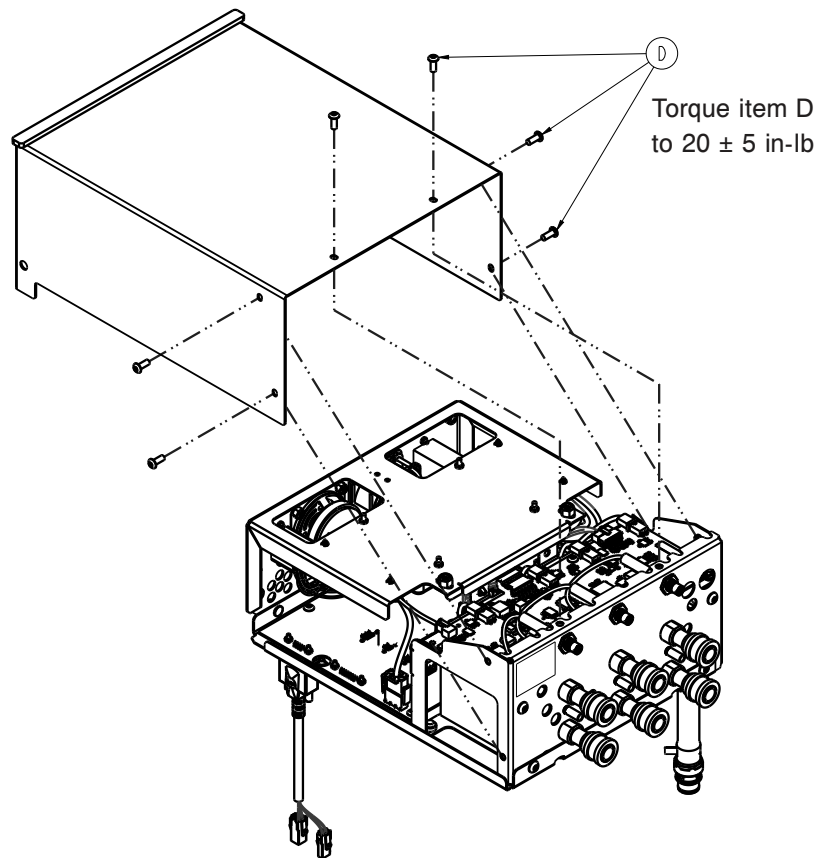

Figure 30 – Control box cover
6. Using a T25 Torx driver, remove the six screws (D) from the control box cover (Figure 30). Save the screws.